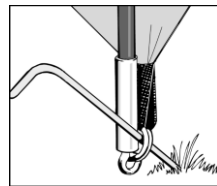

Figure 2
9. Peg down all rings of ring and pin system using pin-pegs. (see figure 2)